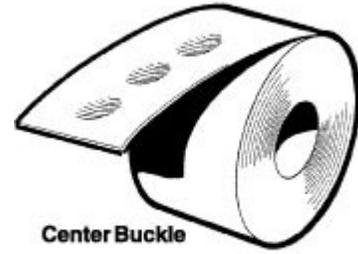
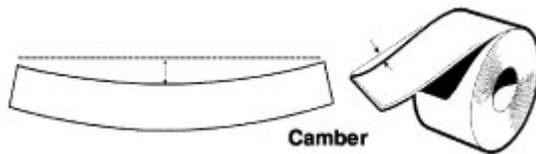
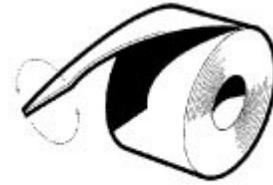

Figure 4
Figure 5
Figure 6
2. Edge-to-edge length differential. If the edges are longer than the center, you will have wavy edges (see **Figure 3**). If the center is longer than the edges, you will have center buckle (see **Figure 4**), sometimes called oil can or canoe. This category of defect also includes camber (see **Figure 5**) and twist (see **Figure 6**).